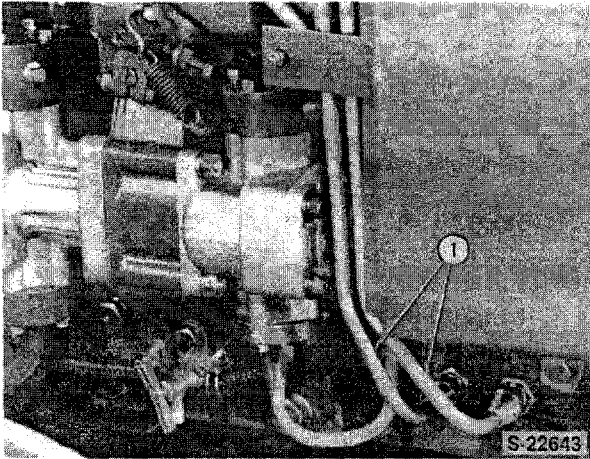

Figure 10
9. Disconnect the power steering tubes (1) from the front axle support and cap all openings, Figure 10.